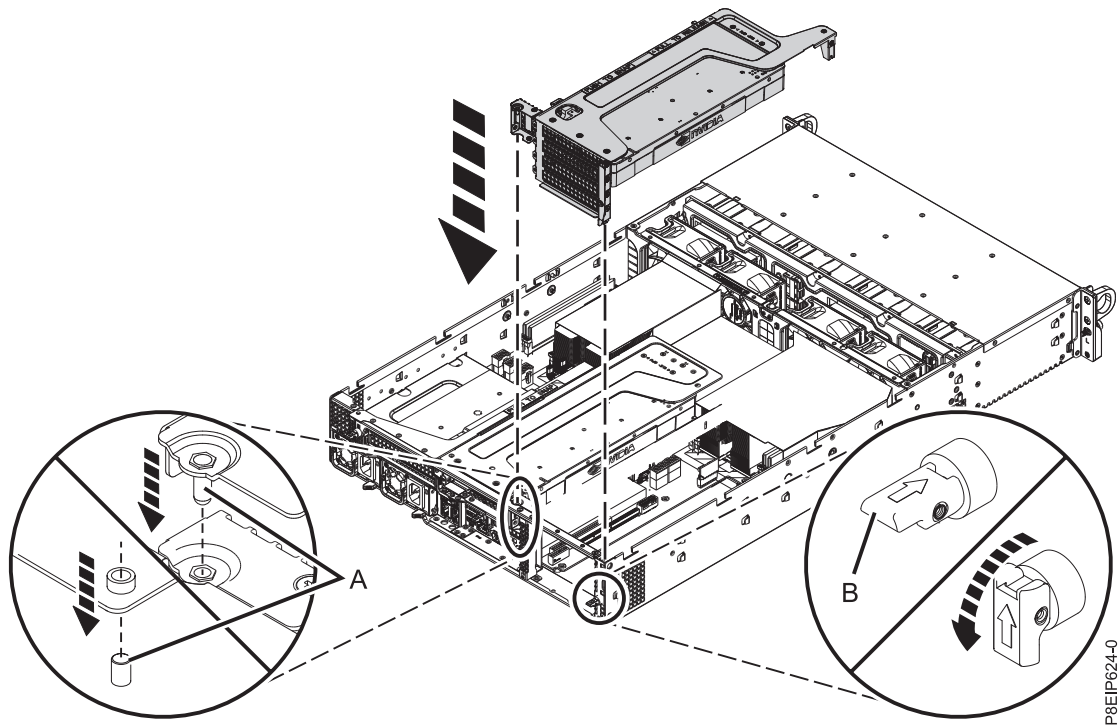

Figure 32. Inserting the GPU and riser
- d. Insert the GPU and PCIe riser as shown in Figure 32 on page 29.